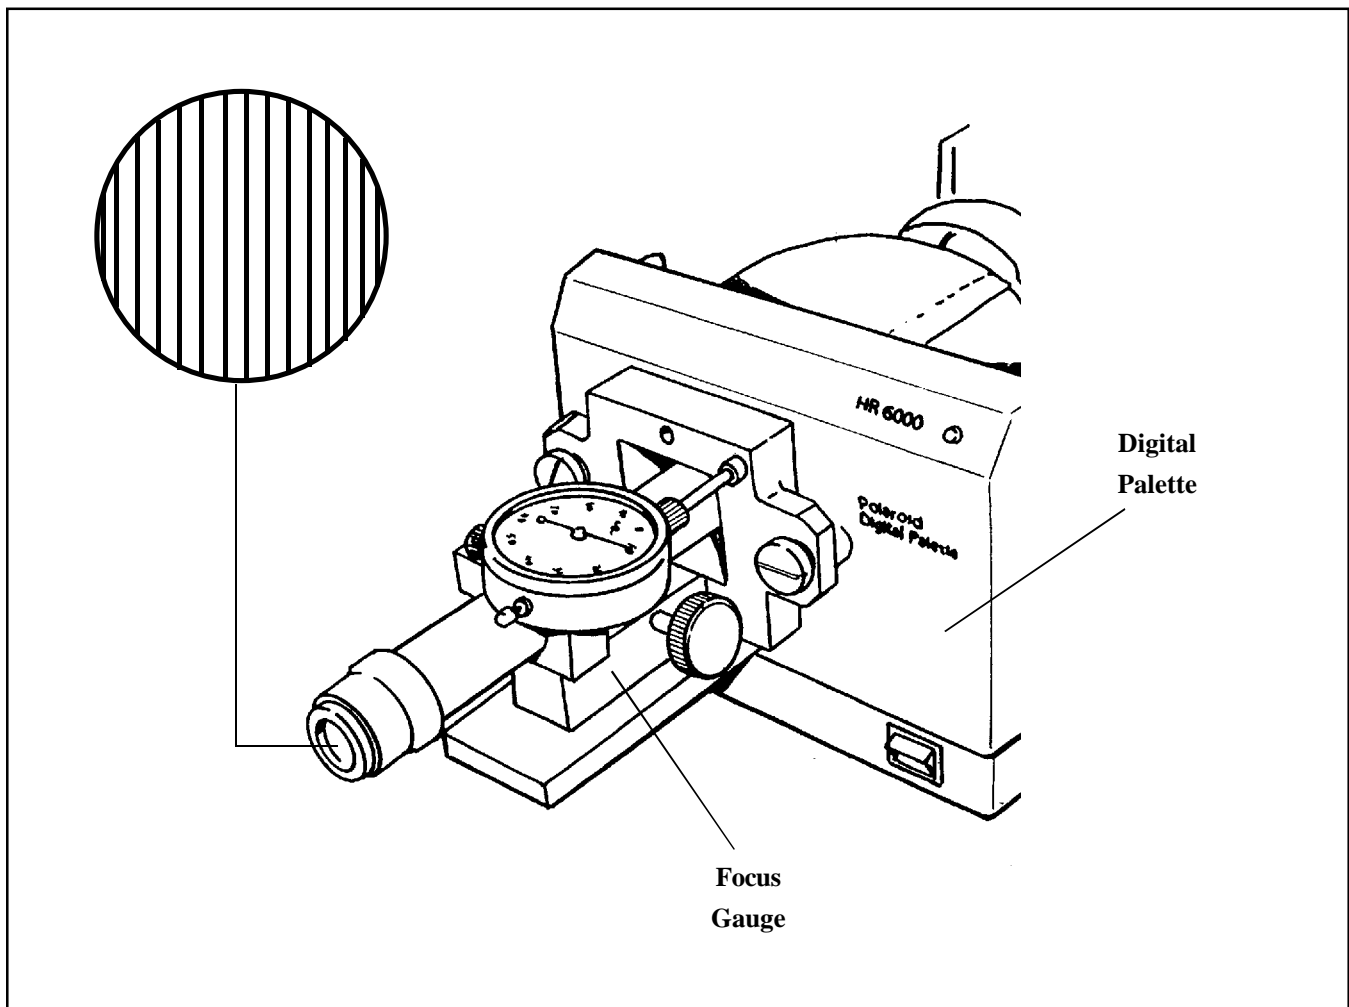

Figure A-5. Mechanical Focus Gauge (Microscope) Mounted on Digital Palette Film Recorder
3. Mount the mechanical focus gauge (microscope) onto the front of the HR6000 Digital Palette Film Recorder (Figure A-5).
4. Adjust the mechanical focus gauge for the best (sharpest) focus (Figure A-5)